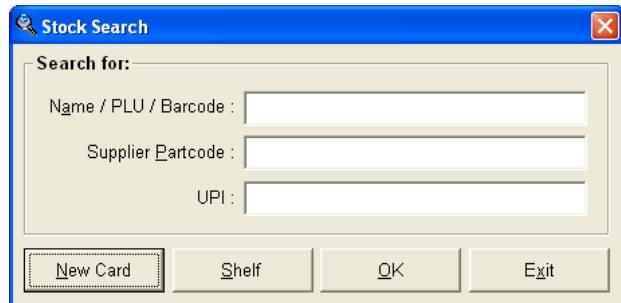

Figure 144
2. From the 'Stock Search' window select 'New Card' (as shown in Figure 144).